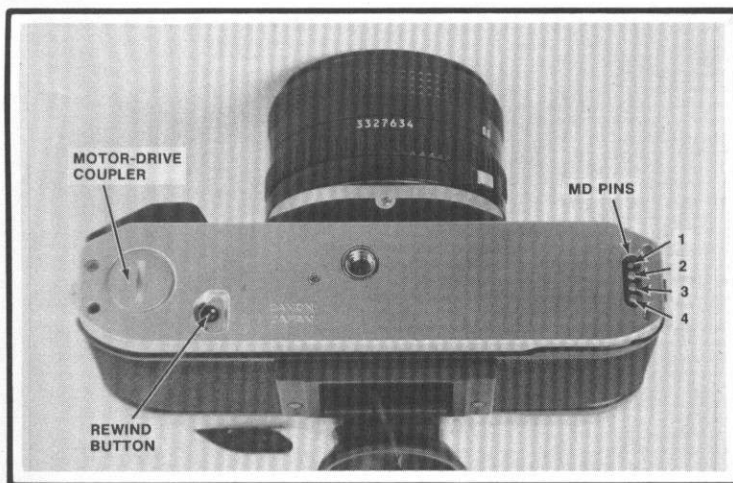

Figure 3
3. Power winder. You can check for proper power-winder and motor-drive switching by making ohmmeter and shorting tests at the MD pins, Fig. 3. Pin 3 should always connect to the ground. Pin 2 should connect to ground with the shutter released (no continuity to ground with the shutter cocked). Pin 4 should connect to ground when you fully depress the release button. Shorting pin 1 to ground should turn on the LED display.